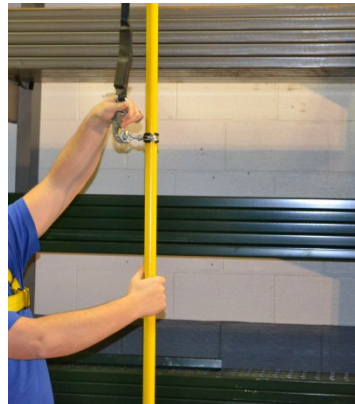

Figure 18 - Disconnect Snap Hook
14. Disconnect snap hook from eye bolt. See Figure 18.
- 20ft Rebel Part Number 3100431 with AJ520A hook on lifeline, AJ514A carabiner on housing (See Figure 18)